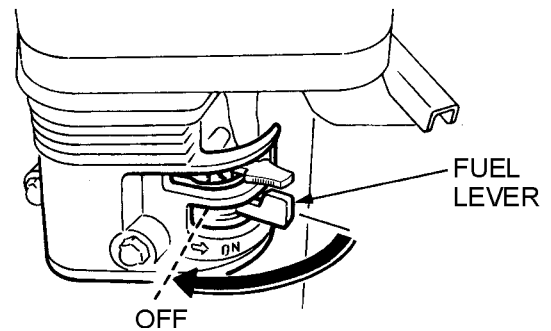

Figure 41. Fuel Valve Lever (OFF)
4. Close the fuel shut-off valve (Figure 41) by moving the fuel valve lever to the "OFF" position.